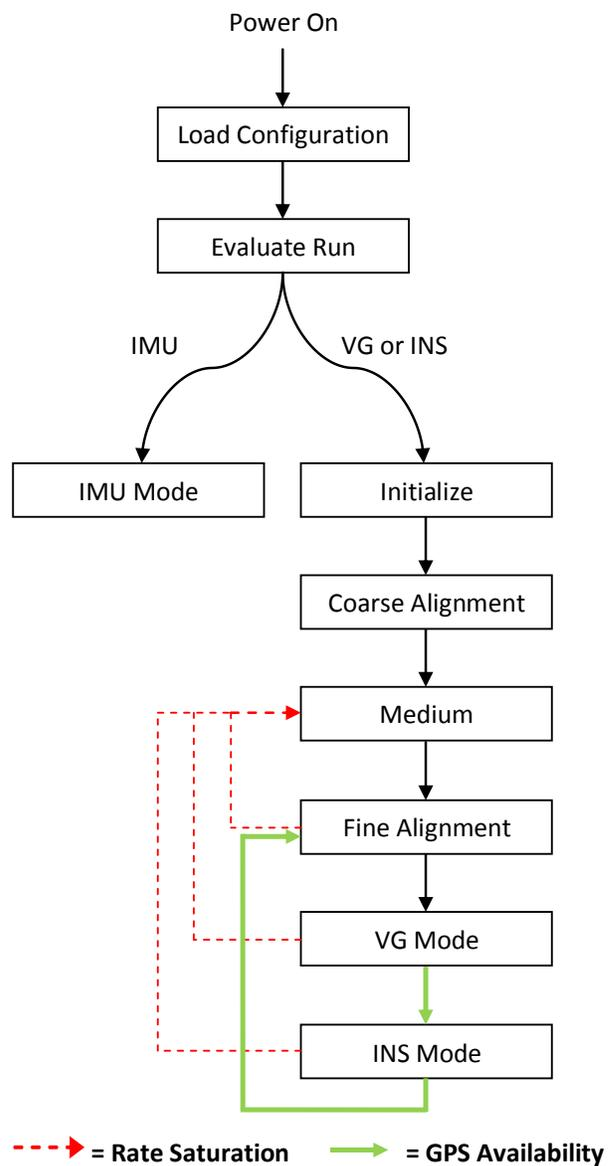

Figure 1. MIDG Series INS/GPS mode transitions.
**1.1 Alignment Modes** The MIDG Series INS/GPS has four distinct alignment modes. These alignment modes are the stages of sensor alignment. These modes do not provide full navigational data. The MIDG Series INS/GPS should be allowed to transition to an operational mode before relying on outputted data. Alignment time is about two minutes. The Figure 1 outlines the transitions between states. The alignment modes are as follows:
**4 INS mode.** In INS mode, the MIDG Series INS/GPS provides estimates of position, velocity, and attitude at rates up to 50Hz via a state estimation filter and error-corrected angular rates and accelerations are provided. In order to enter INS mode, the unit must be configured for INS operation (which is the default) and GPS must be available. The MIDG Series INS/GPS will not transition into INS mode without GPS. The MIDG Series INS/GPS will remain in INS mode until the accuracy of its estimates degrade to an unacceptable level due to lack of GPS measurements. In this case, the MIDG Series INS/GPS will transition back into the Fine Alignment mode, then proceed to Vertical Gyro mode, and then wait for GPS to become available once again Refer to the Figure 1.